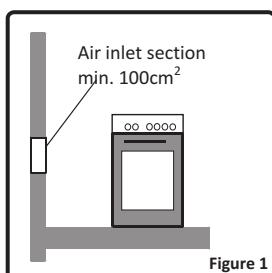

Figure 1
- The airflow must enter through a lower vent and go out of an upper vent. These vents must therefore have a minimum area of 100cm2 for the effective passage of airflow. These vents should be permanently open and never closed. They should preferably be located near the rear of the cooker (see fig. 1 and 2) and at least 1.80 cm above the ground.